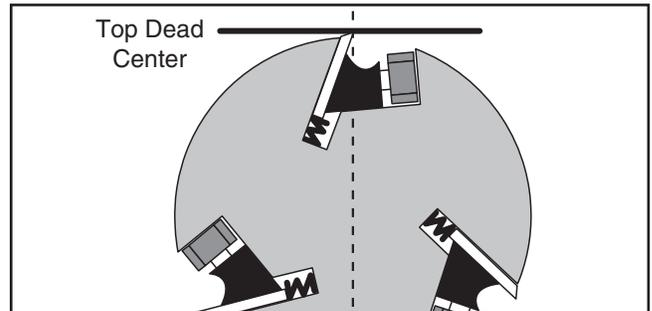

Figure 30. Cutterhead knife at top-dead-center.
2. Rotate the cutterhead pulley until one of the knives is at top-dead-center (TDC), as illustrated in **Figure 30**.